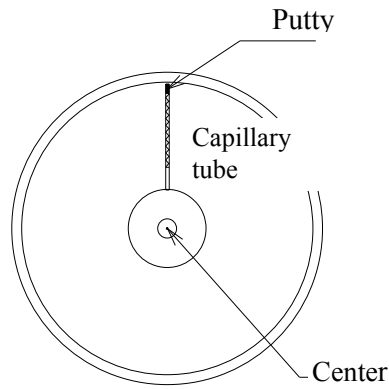

Fig. 3
5. Put the capillary tube that has been prepared using steps 1 - 4 above, into a high-speed hematocrit centrifuge, facing the end of the capillary tube that is not sealed with putty toward the center of the centrifuge, as shown in Figure 3.